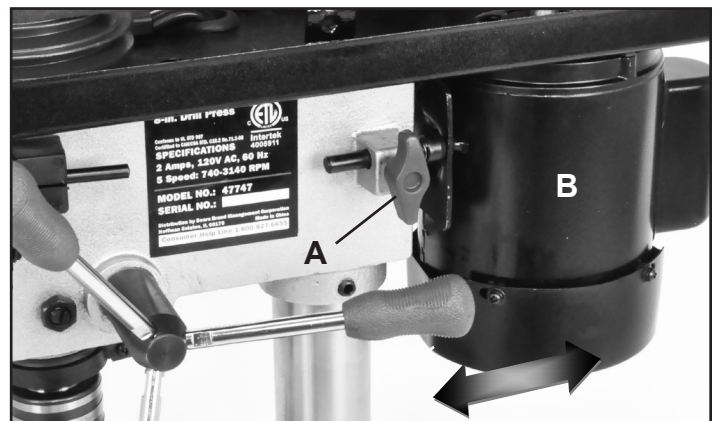

FIG. 12
- B. Loosen the motor lock knob (FIG. 12, A), then move the motor (B) manually toward the feed handle to take tension off of the belt.